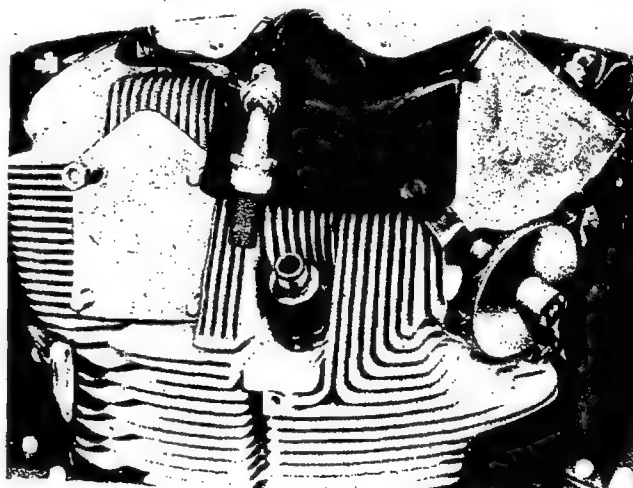

Figure 34—Location of Intake and Exhaust Covers
(3) Remove the three cap screws at the flanged end of the intake pipe. Remove the shakeproof lock washers and pull the flange back from the intake port. Discard the gasket.
(4) Withdraw the intake pipe from the supercharger front housing. Remove the packing nut and packing. Discard the packing.
(5) Install a cover (Tool No. 800909) over the intake port of each cylinder. See figure 34. Install a